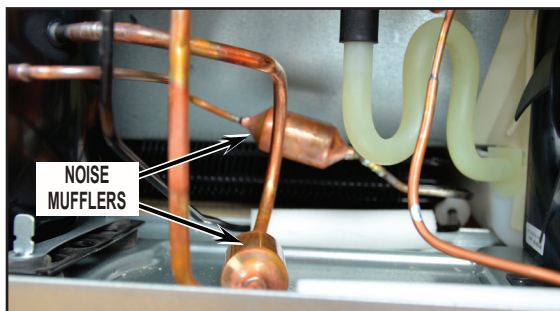

FIGURE 6
1. The refrigerant noise mufflers are part of the sealed system and require no repair unless there is a leak at one of the joints (see *Refrigerant Recovery and Charging Procedures*, page 6-1). See *Figure 6*.